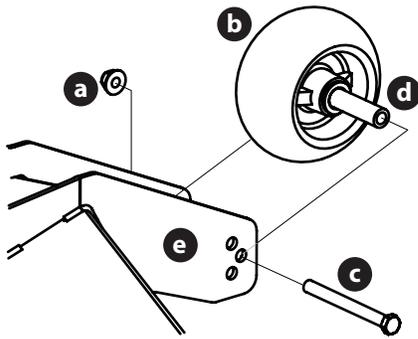

Figure 46
- Remove the lock nut (a) securing one of the front gauge wheels (b) to the deck. Remove the front gauge wheel (b), hex screw (c) and spacer (d) (Figure 46).
- Insert the hex screw (c) into one of the three index holes in the front gauge wheel bracket (e) that will give the front gauge wheel (b) a 1/4-1/2" clearance with the ground (Figure 46).
- Note the index hole of the just-adjusted front gauge wheel (b), and adjust the other front gauge wheel (b) into the respective index hole of the other front gauge wheel bracket (e) (Figure 46).